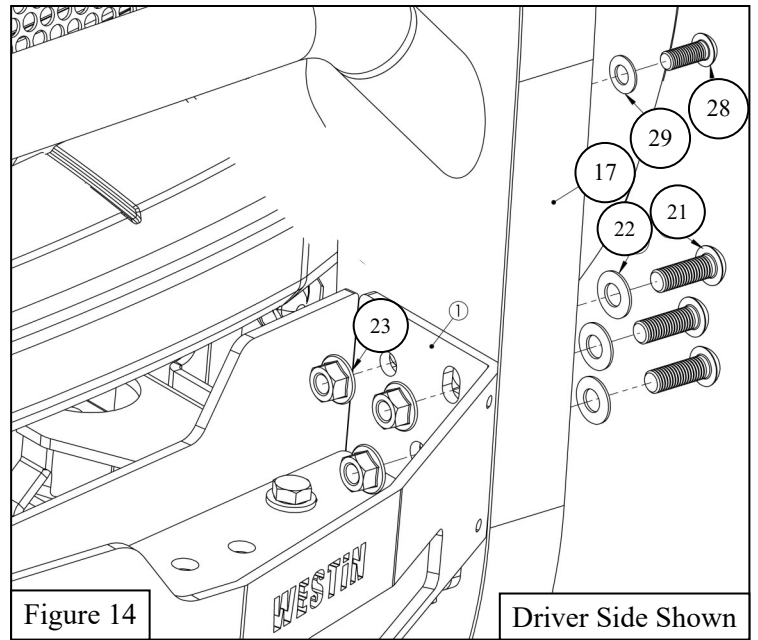

Figure 14
14. Locate (1) HDX Grille Guard Base (Item 17) and with assistance align it with the previously installed brackets and loosely secure using the supplied M12 hardware. See **Figure 14 & 15** for reference.
15. Locate and mount the HDX Driver Wing (Item 18) to the Grille Guard Base using the supplied M8 Hardware (Items 19-21). **Note:** For the mounting hole shared with the upper Support Straps, the M12 Hardware will be used. See **Figures 14 & 16** for reference.